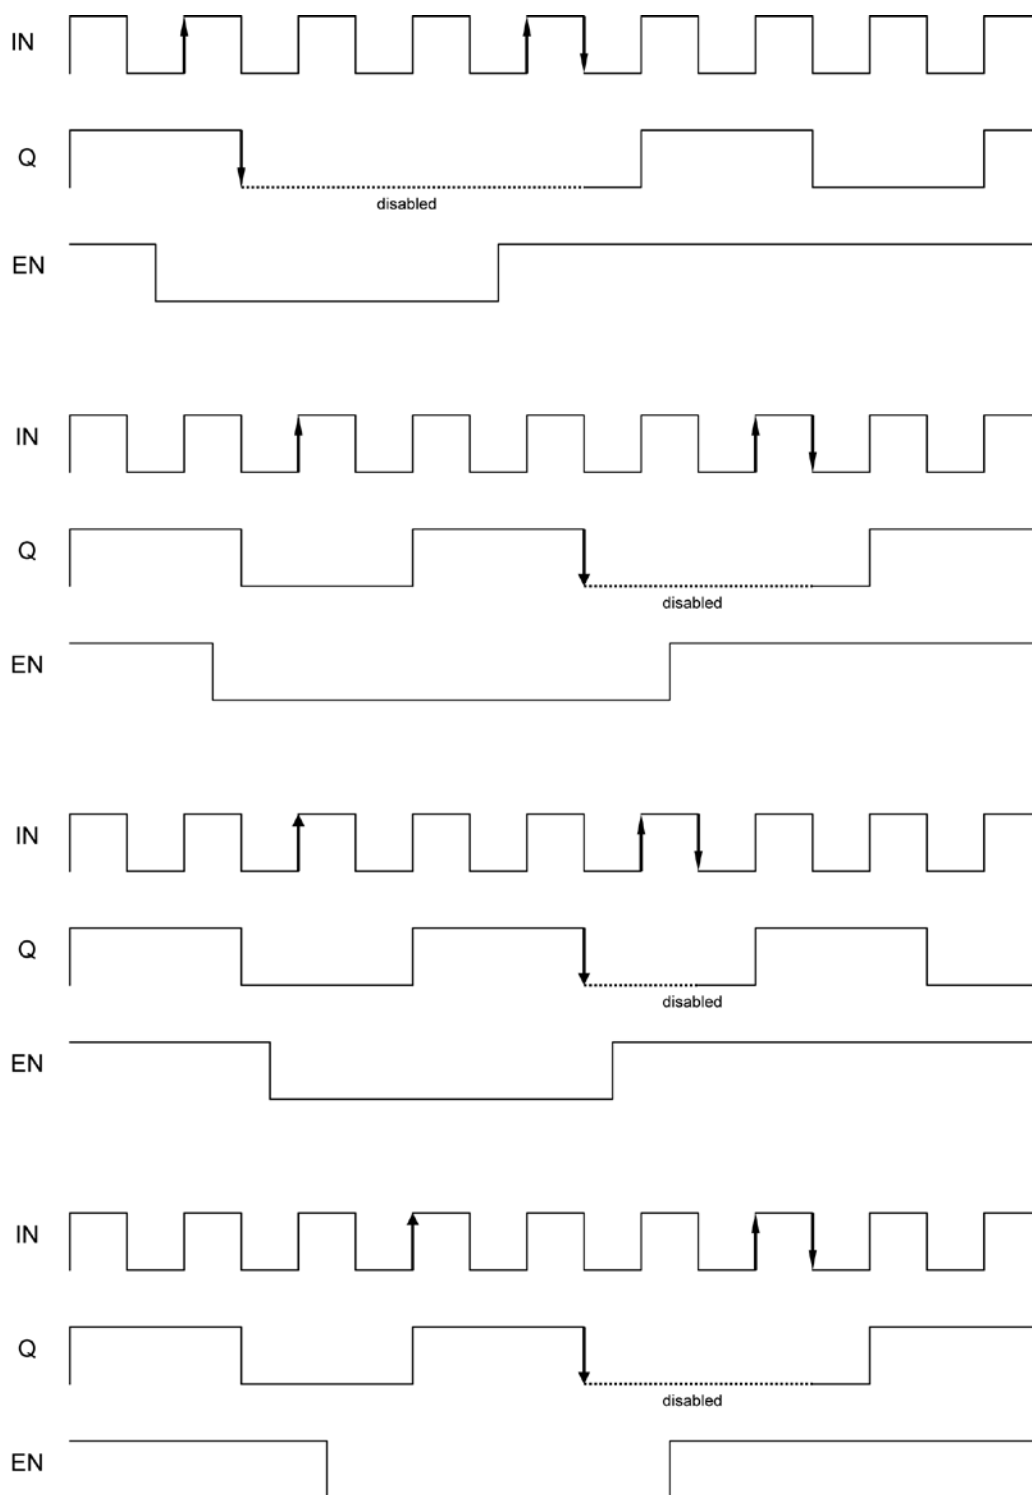

Figure 1b. Enable Output Timing Diagram Examples (divide by 3)
2. The enable/disable function always guarantees the full pulse width at the output before the clock outputs are disabled, non-dependending on the divider ratio. Refer to Figure 1b for examples.